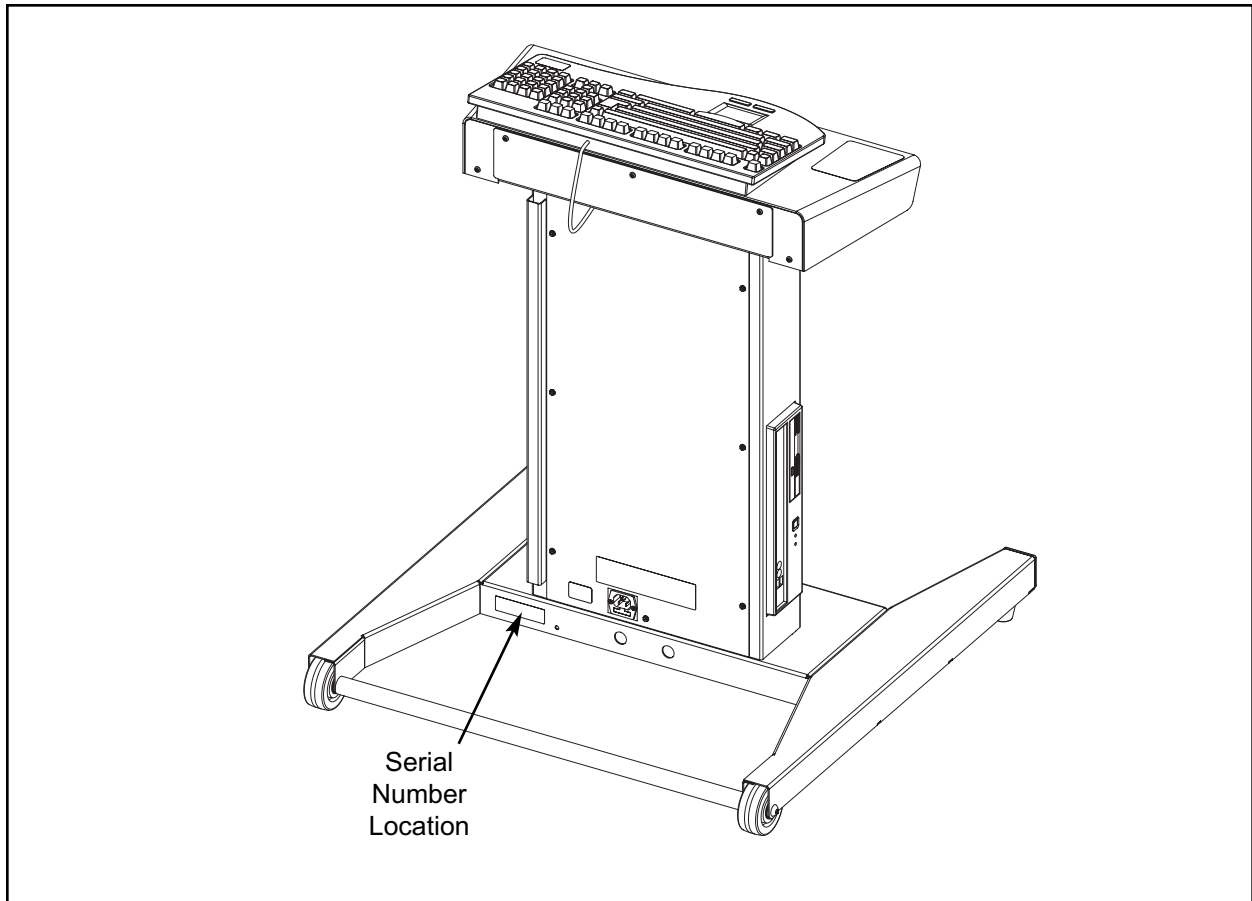

Figure 1
Your serial number can be found on the back of the unit. See Figure 1.
3. Provide the model and serial number. *The serial number is located on the front of the unit as shown in Figure 1.* The serial number begins with a letter, for example: R09-101331100.